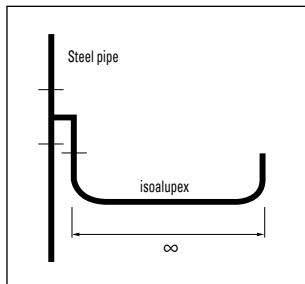

fig. 2
- If parallel branches are used, the isoalupex pipe must be bent immediately after the connection point, see fig. 2.